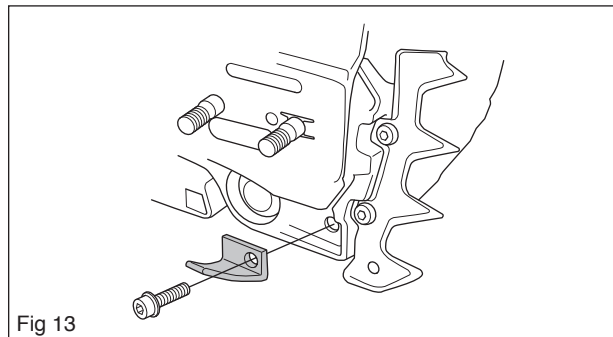

Fig 13
Make sure that the vibration element is fitted correctly on the crankcase when a new chain catcher is screwed in place. See figure 13.
- Carefully clean and check all parts. See figure 13. Parts must be replaced if cracked or show signs of other defects. Always use original spare parts.